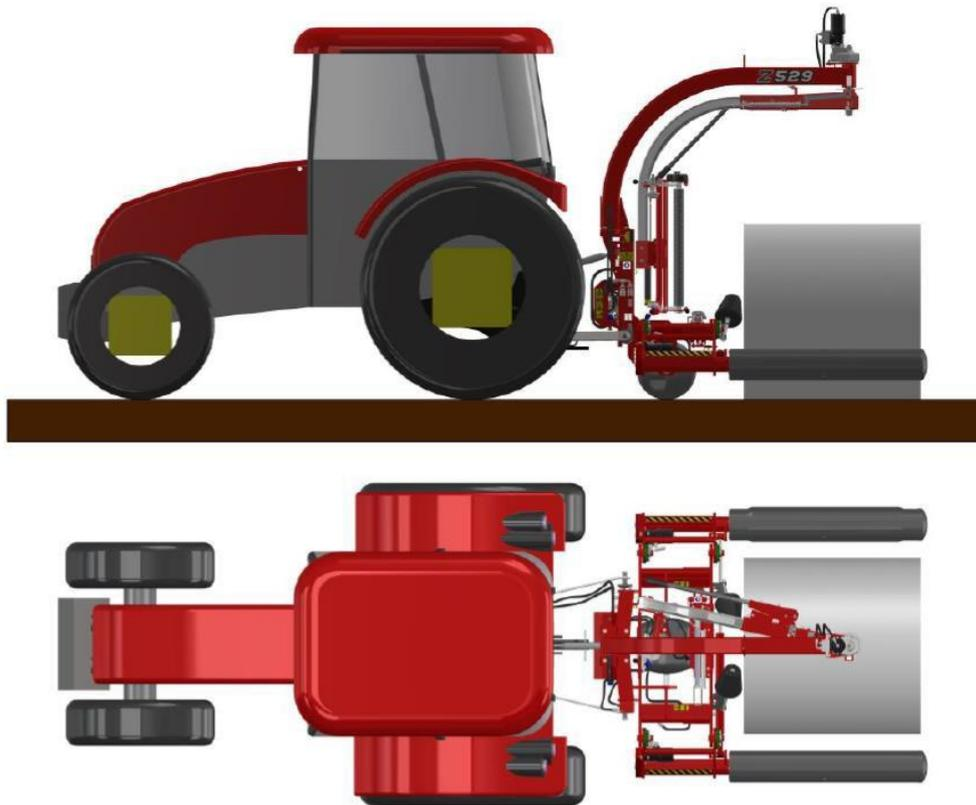

Figure 18. Bale unloading position
5. Set the bale wrapper in the unloading position (Fig. 18). Start the unloading by pressing the  or  button when using the bale tipper (if equipped).